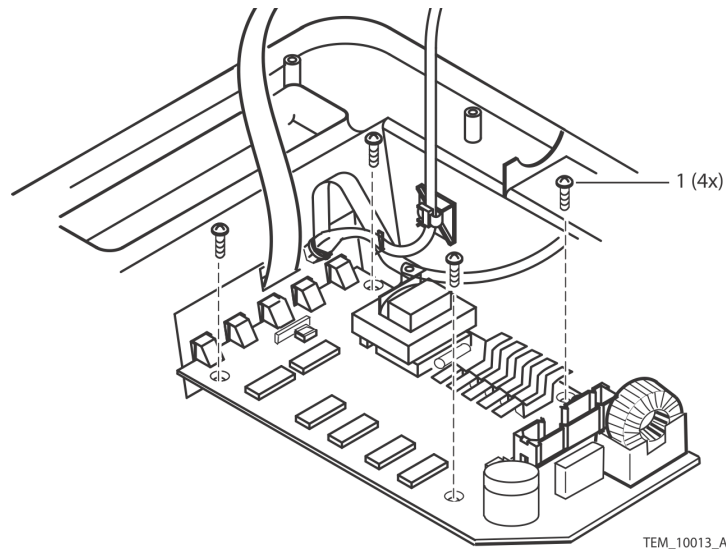

Figure 35. Control PCB Screws
- Carefully place the replacement Control PCB into the front cover assembly and install the mounting screws. Tighten the screws to 4 to 6 in/lbs (10 to 15 cm/kg). See Figure 35.